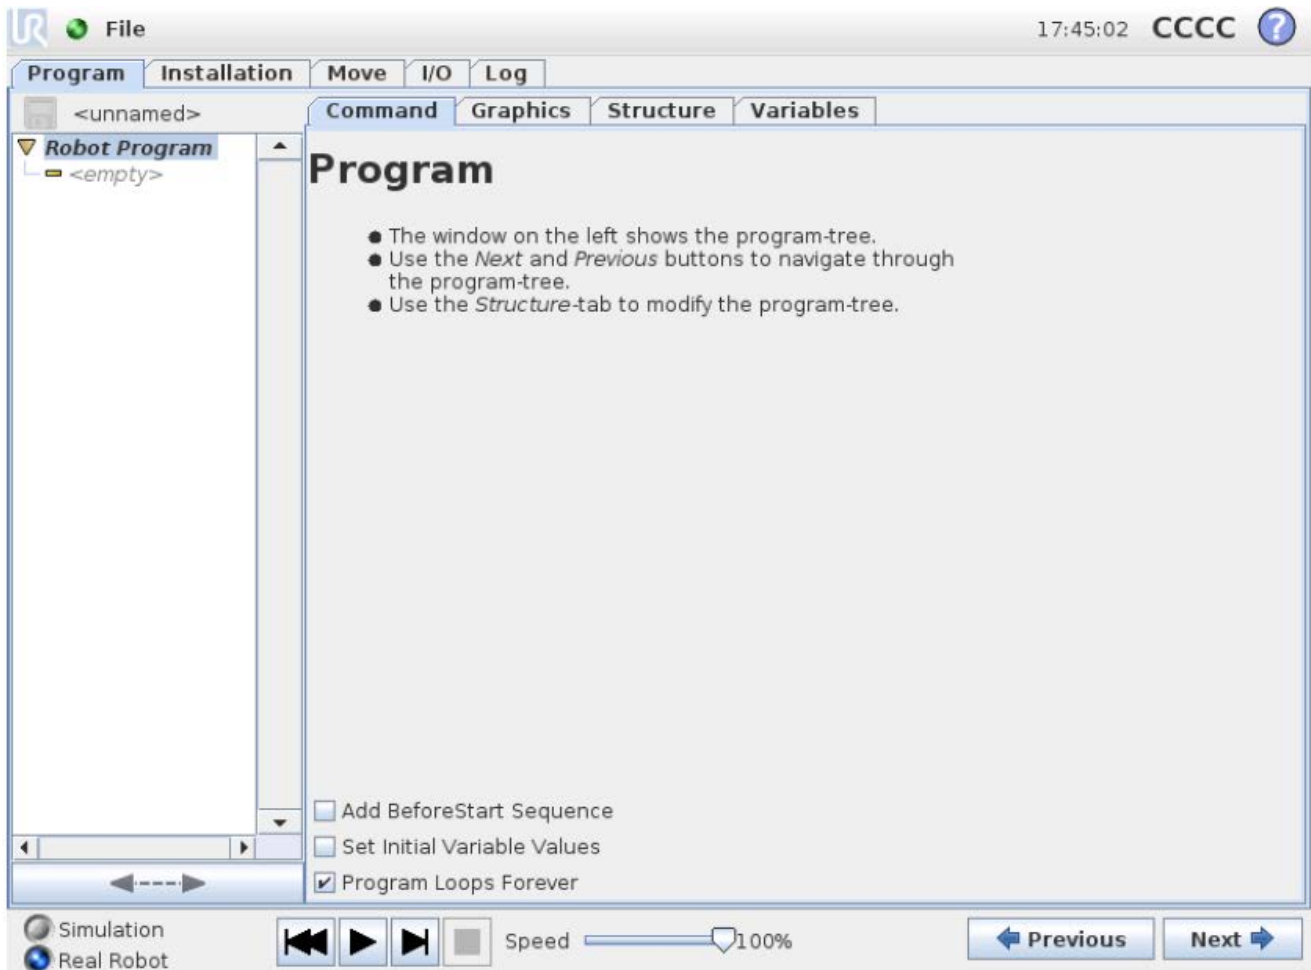

Figure 10 Command tab of a program
3. You will now be taken to the Command tab of an empty program (Figure 10). The left hand panel contains the instructions of our program (currently empty). We will write a simple program of picking up an imaginary object and moving it to another location. The first position is the start position of the robot. The second position is where the robot can pick up the object if the gripper was engaged. The third position is the end position of the robot.